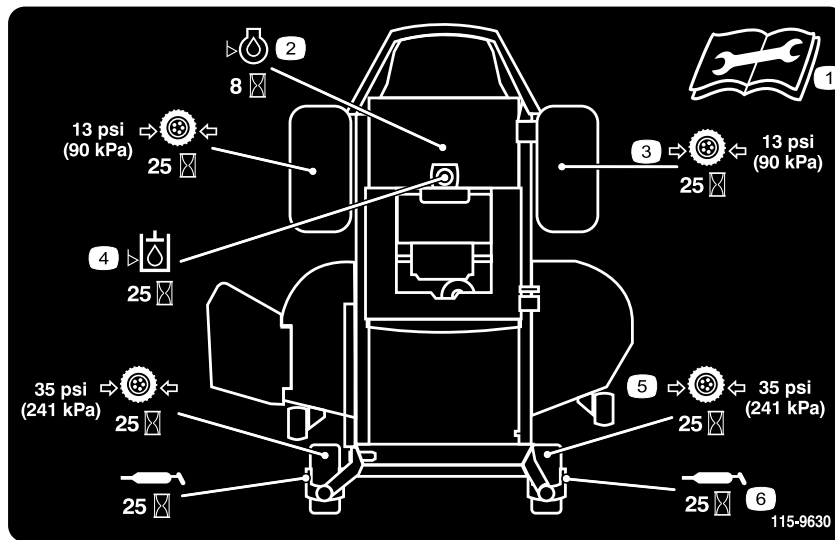

Figure 32
3. Clean the grease fittings (Figure 33 and Figure 32) with a rag. Make sure to scrape any paint off of the front of the fitting(s).
4. Connect a grease gun to each fitting (Figure 33 and Figure 32). Pump grease into the fittings until grease begins to ooze out of the bearings.